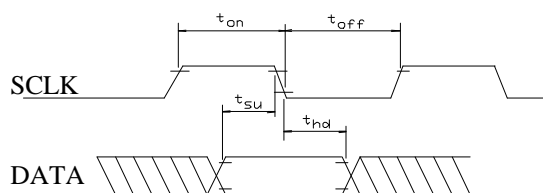

Figure 3. SCLK and DATA Timing Diagram
3.7 AC ELECTRICAL CHARACTERISTICS (see Figures 3,4,5) ($V_{CC} = 5V$)